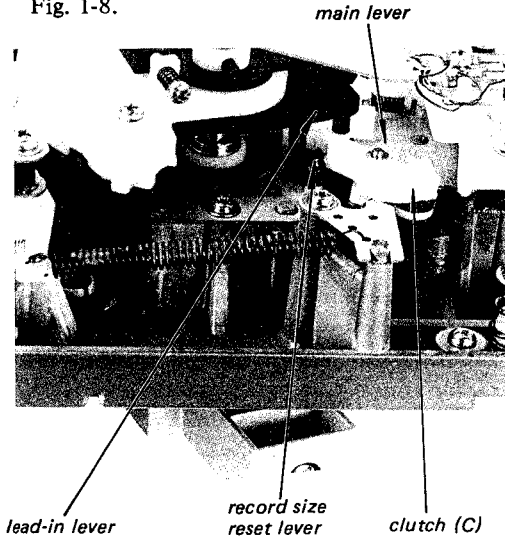

Fig. 1-8
- 10) The main lever begins to move in the opposite direction, when the clutch (C) pushes the lead-in lever and the record size reset lever as shown in Fig. 1-8.